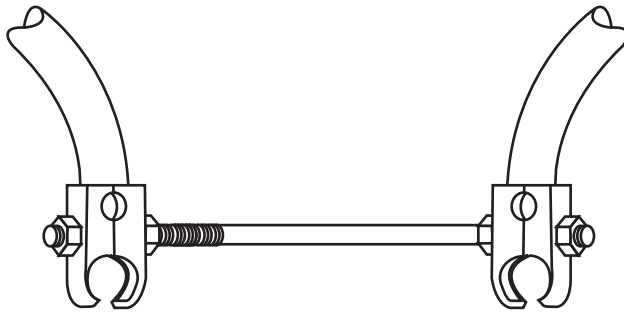

Fig. 1
1. Place a nut on each end of the bent rod turning it on as far as possible. Next place a lock washer and clamp on end. See fig.1.
2. Insert the ends of the rod with nuts, lockwasher and clamp in the center through the hole near the end of the bar. Insert the end with the most threads first. The curved flat end of the clamp should extend beyond the end of bar. See fig. 1.
3. Install remaining clamps on outside of bar and secure with nuts. Lockwashers are not necessary. Turn nuts until the end of rod just comes even with edge of nuts. See fig. 1.